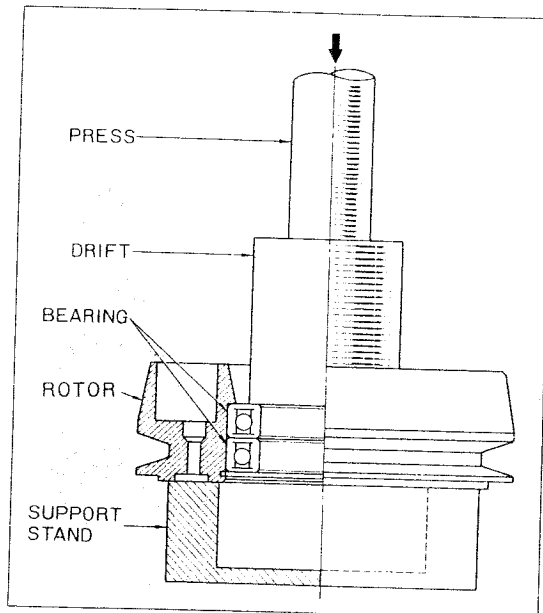

Fig. 81
- 2) Place the rotor on the support stand with pulley side down, and press two bearings from the rotor boss. See Fig. 81.